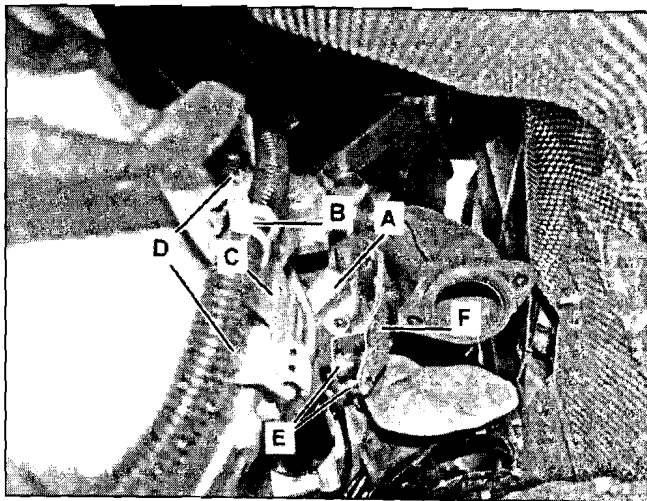

Figure 5
3. Remove starter (A, Figure 5).
- Pry cable holder (B) from transmission bracket (C).
- Remove transmission bracket bolts (D).
- Remove starter heat shield bolts (E); remove heat shield (F).